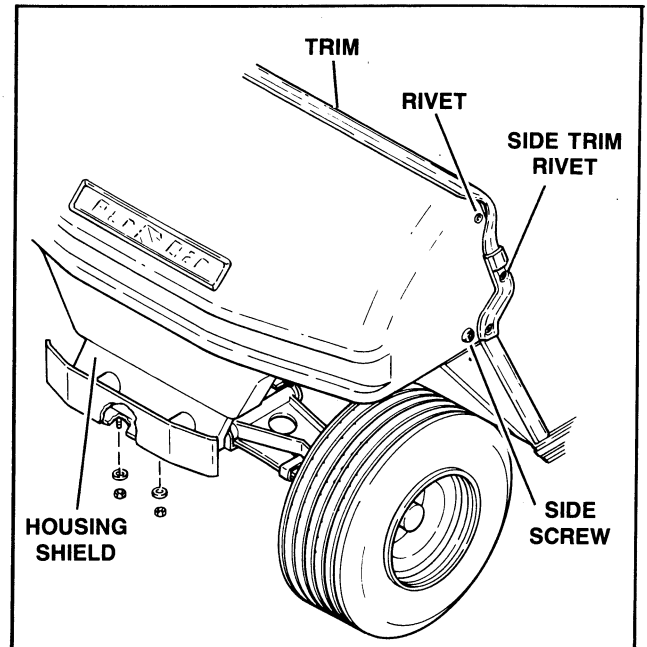

Figure 46 – Front Housing
23. FRONT HOUSING REMOVAL (Figure 46)